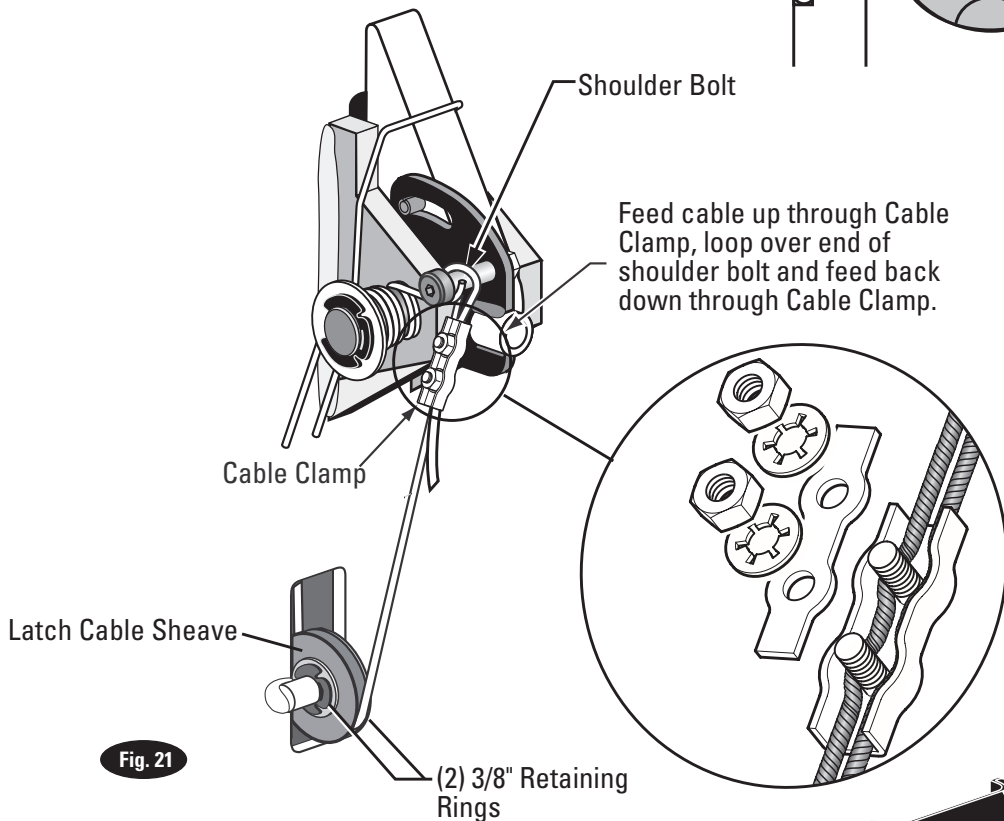

Fig. 21
- G) Bring the cable down inside the left column and feed the end of the cable through the lower latch cable sheave slot so that the cable is now back outside the column, Fig. 21.
- H) Route cable under the bottom side of the latch cable sheave, Fig. 21.
- J) Insert cable in cable clamp along one side, loop around shoulder screw and back down, inserting cable along other side of cable clamp, Fig. 21. Place top back on clamp, barely tightening.
- K) Next, pull the control plate down, Fig. 20 & Fig. 21, to eliminate any clearance between the control plate slot and the latch dog pin, Fig. 20.